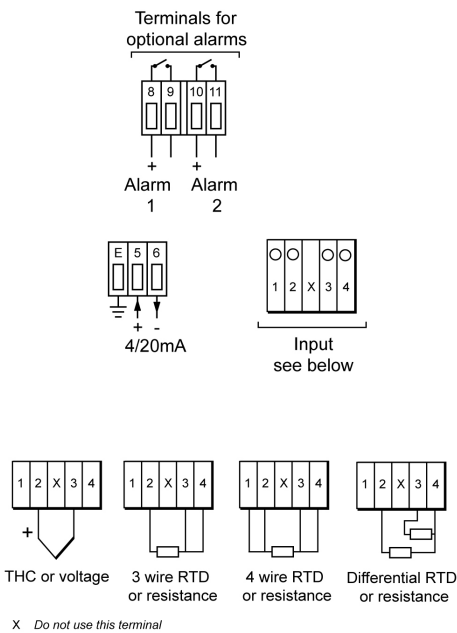

Fig 6 Installation and terminal connections
- a. Insert the BA478C into the instrument panel cut-out from the front of the panel with the sealing gasket positioned as shown in Fig 6.
- c. Connect the panel wiring to the rear terminal block as shown in Fig 6. To simplify installation, the terminals are removable so that panel wiring can be completed before the instrument is installed.